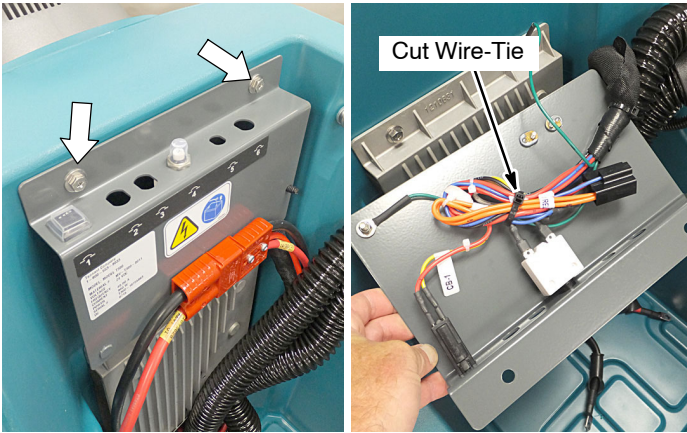

Fig. 12
1. Remove the two circuit breaker panel screws. Cut the wire-tie from the wire bundle to access the factory installed ec-H2O circuit breaker wires and relay connector (Figure 12).